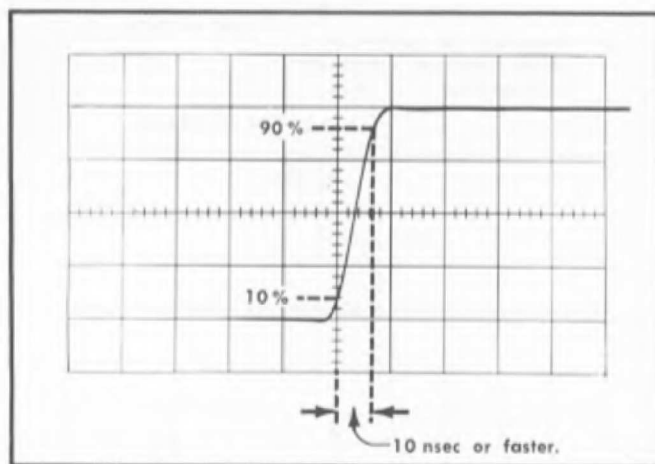

Fig. 5-13. Measuring the risetime of a normal waveform when SW1000 is actuated; sweep rate is 10 nsec/cm.
- Depress the Transient Response Compensation SW1000 (see Fig. 5-12a). Check risetime between the 10% and 90% points on the rising portion of the waveform (see Fig. 5-13). Overall risetime should not be any slower than 10 nsec.